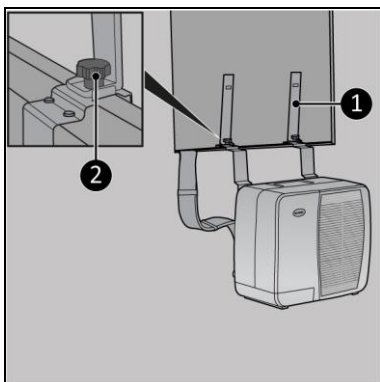

Figure 8
1. Attach the support brackets (Figure 8, pos. 1) to the outdoor unit brackets by tightening the screw cap per bracket (Figure 8, pos. 2).